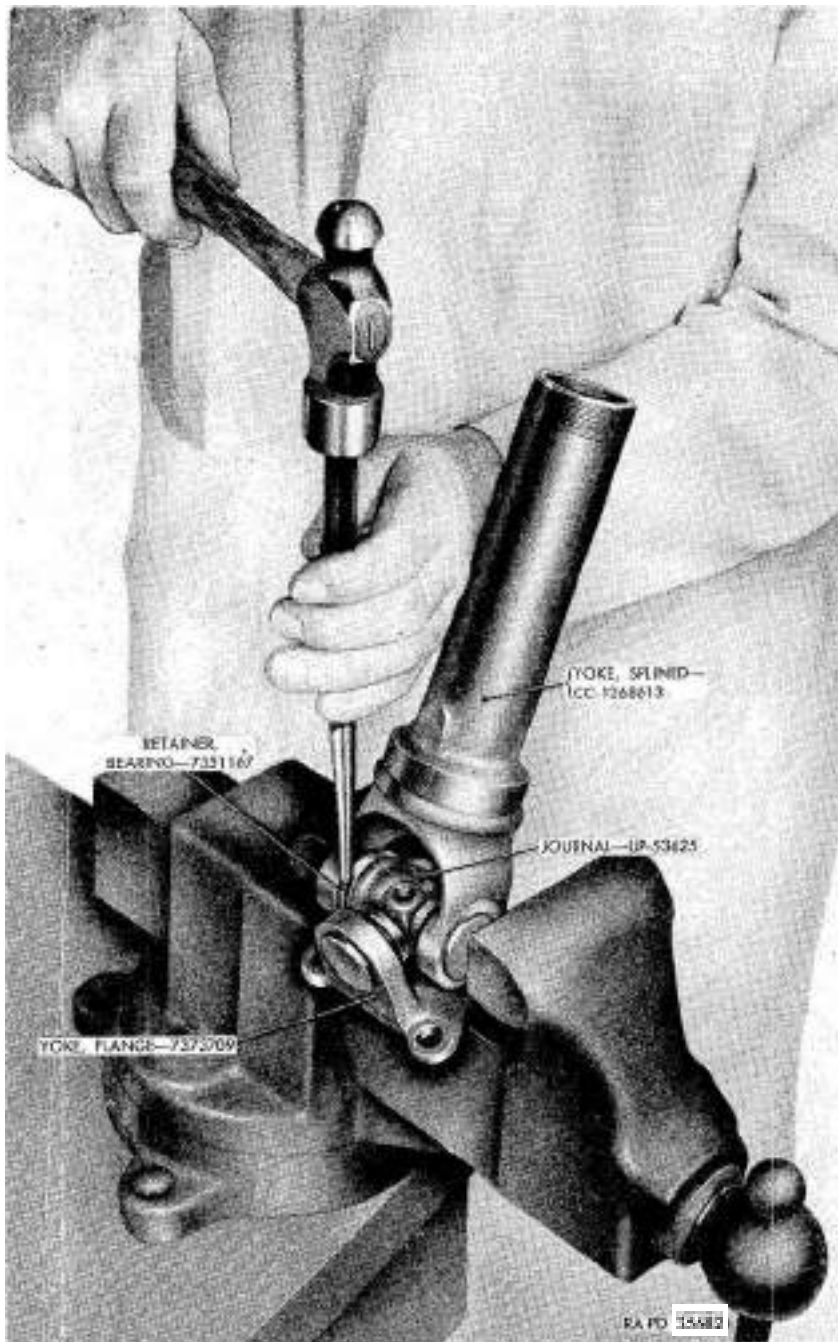

Figure 143. Removing bearing retainer.
- (1) Remove $\frac{1}{4}$ -NPT straight lubricating fittings (K) and $67\frac{1}{2}$ -degree $\frac{1}{8}$ -NPT lubricating fitting (S) from splined yoke (R) and journal (J).
- (2) Remove bearing retainers (A, E, W, and X) with a punch and hammer (*fig. 143*) .
- (3) To remove the roller bearing assemblies, proceed as follows :